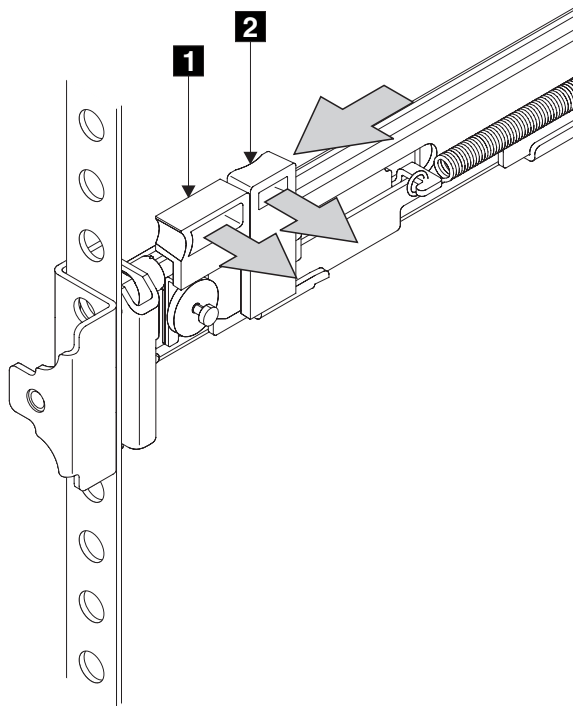

Figure 86. Closing the latch-lock carrier assembly
8. Push the latch lock **2** (Figure 86) away from the rail to release the carrier. The latch-lock carrier slides toward the front of the rack and the locating pins project through the holes that are in the front flange and in the front rail bracket.